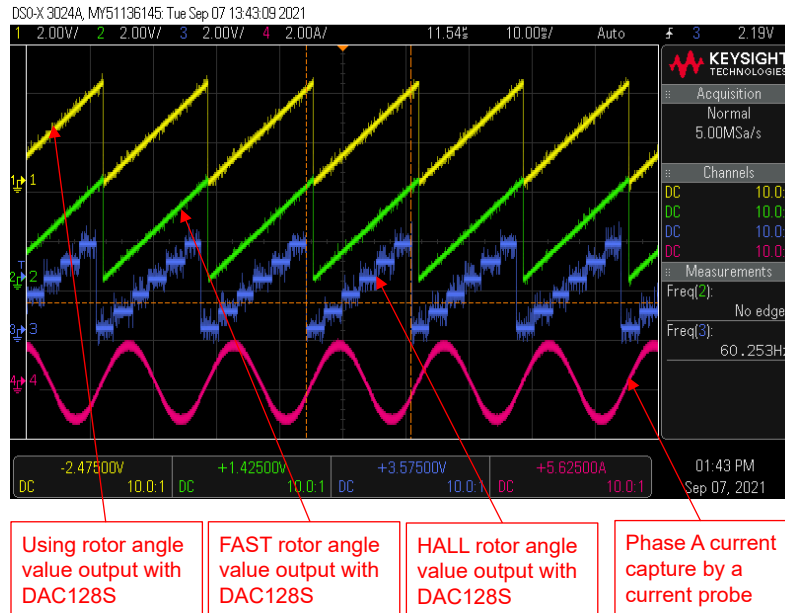

Figure 2-46. Build Level 4: Rotor Angle with FAST and Hall Sensor, Phase Current Waveforms at Forward Rotation
- The estimated rotor angles from FAST and Hall sensor are shown in Figure 2-46. The motor is running with FAST at forward rotation by setting motorVars_M1.speedRef_Hz to a positive value.
- The estimated rotor angles from FAST and Hall sensor are shown in Figure 2-46. The motor is running with Hall sensor at reversal rotation by setting motorVars_M1.speedRef_Hz to a negative value.
Use DAC128S085EVM with an oscilloscope to monitor rotor angle of the motor from the FAST estimator and hall sensor, and a phase current of the motor as shown in Figure 2-46 when the motor is running at forward rotation by setting `motorVars_M1.speedRef_Hz` to a positive reference value.